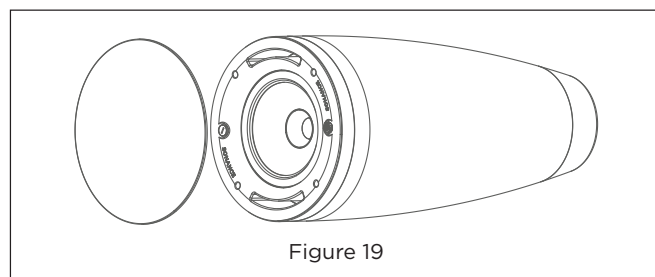

Figure 19
18. Fit the grille onto the speaker (see Figure 19).